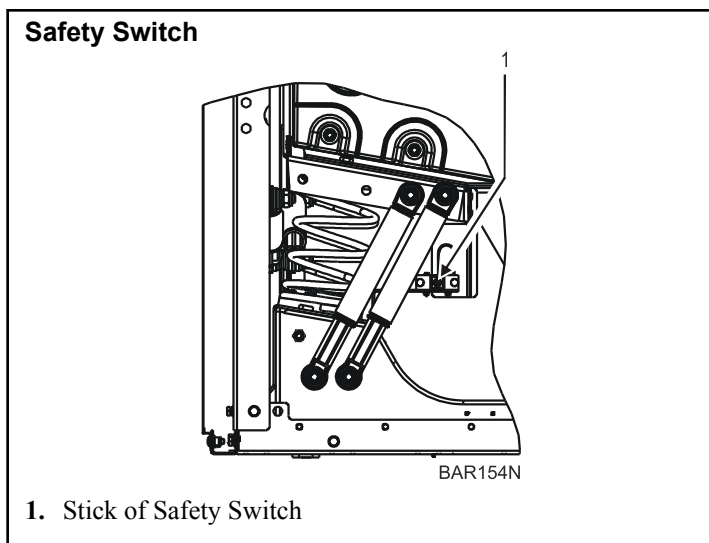

Figure 55
- The X dimension represents the distance between the lower edge of the lug and the stick of safety switch. Refer to *Figure 55* .